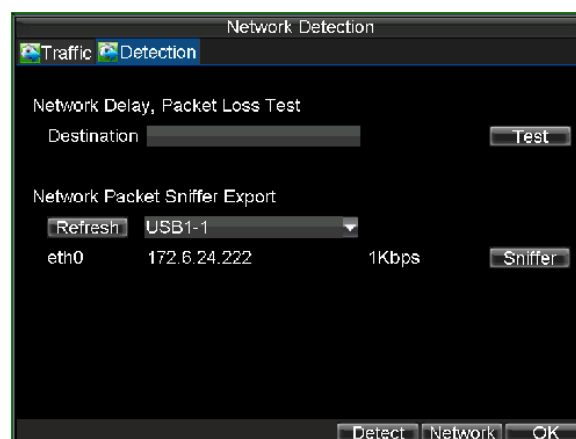

Figure 15. Network Detection Interface
2. Click the **Detection** tab to enter the Network Detection menu, as shown in Figure 15.